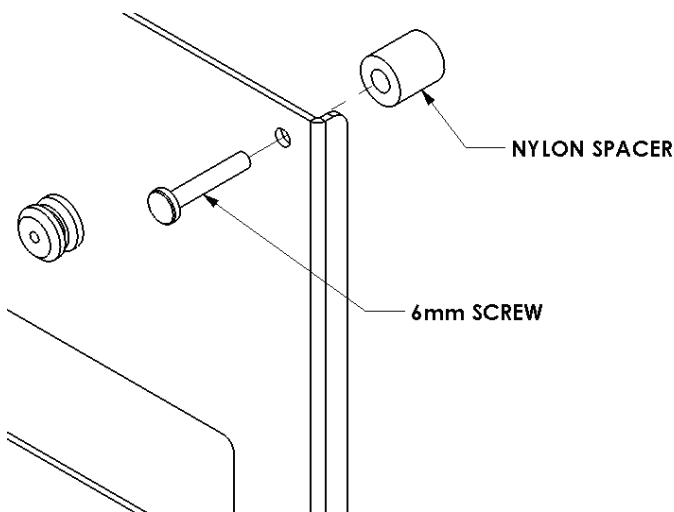
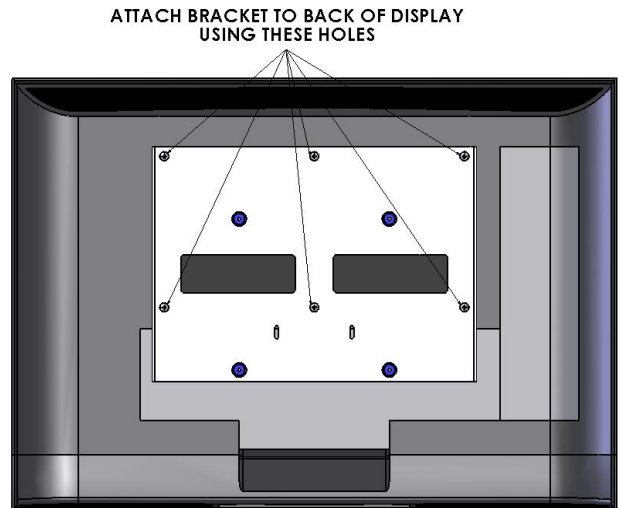

Figure 6
Figure 7
4. **Bracket Installation:** Attach bracket to back of display using the M6 screws and nylon spacers (see Figure 6 & Figure 7). Use the nylon spacer that fits best with your screen. Do not over tighten screws.